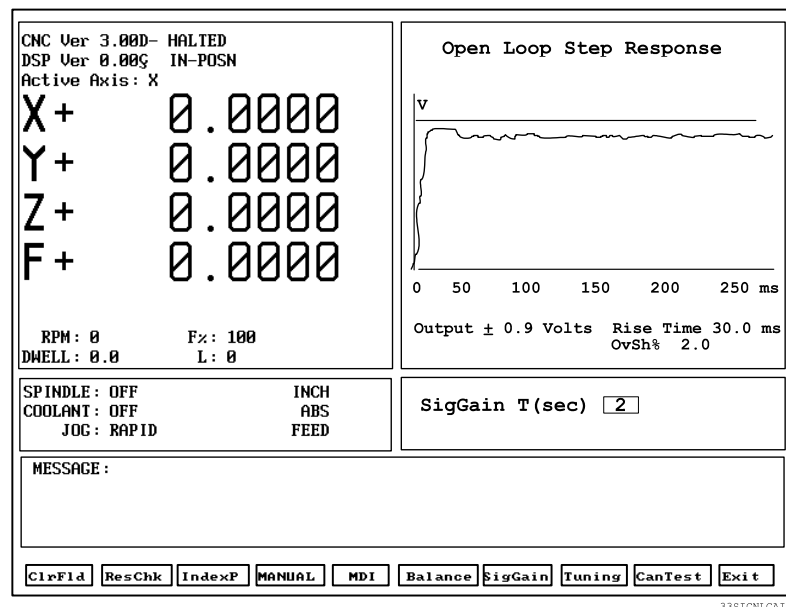

Figure 11, Signal Gain (SigGain) Screen, DC Systems
3. Refer to **Figure 11, Signal Gain (SigGain) Screen, DC Systems**. Look at the Prompt Area of the MST screen. Enter a timed delay at the **T(sec)** entry field (two seconds is usually adequate). The graph in the graphics area plots machine motion as follows: